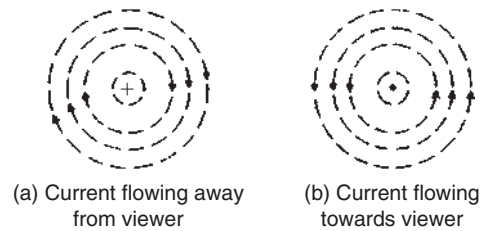
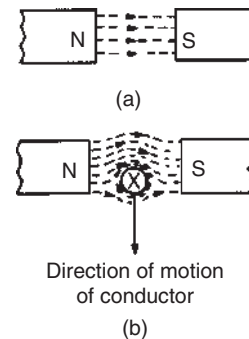

Figure 8.3
Figure 8.13
When dealing with magnetic fields formed by electric current it is usual to portray the effect as shown in Fig. 8.3. The convention adopted is:
- (i) Current flowing away from the viewer, i.e. into the paper, is indicated by $\odot$. This may be thought of as the feathered end of the shaft of an arrow. See Fig. 8.3(a).
- (ii) Current flowing towards the viewer, i.e. out of the paper, is indicated by $\otimes$. This may be thought of as the point of an arrow. See Fig. 8.3(b).
For example, with current flowing away from the viewer (Fig. 8.3(a)) a right-hand thread screw driven into the paper has to be rotated clockwise. Hence the direction of the magnetic field is clockwise.
If the current-carrying conductor shown in Fig. 8.3(a) is placed in the magnetic field shown in Fig. 8.13(a), then the two fields interact and cause a force to be exerted on the conductor as shown in Fig. 8.13(b). The field is strengthened above the conductor and weakened below, thus tending to move the conductor downwards. This is the basic principle of operation of the electric motor (see Section 8.4) and the moving-coil instrument (see Section 8.5).